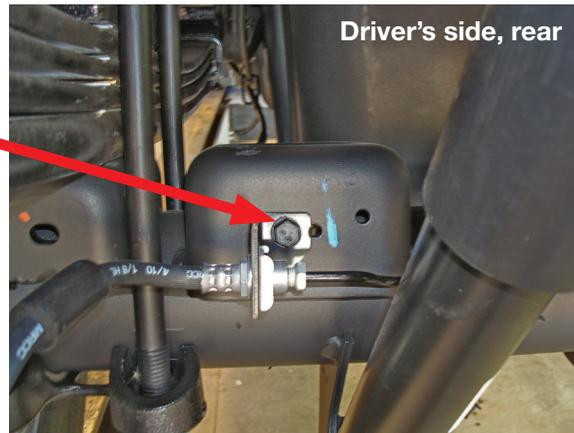

fig. 6
4. Remove the three bolts that hold the brake lines to the rear axle jounce bumper strike plates (Figs. 6 & 7).